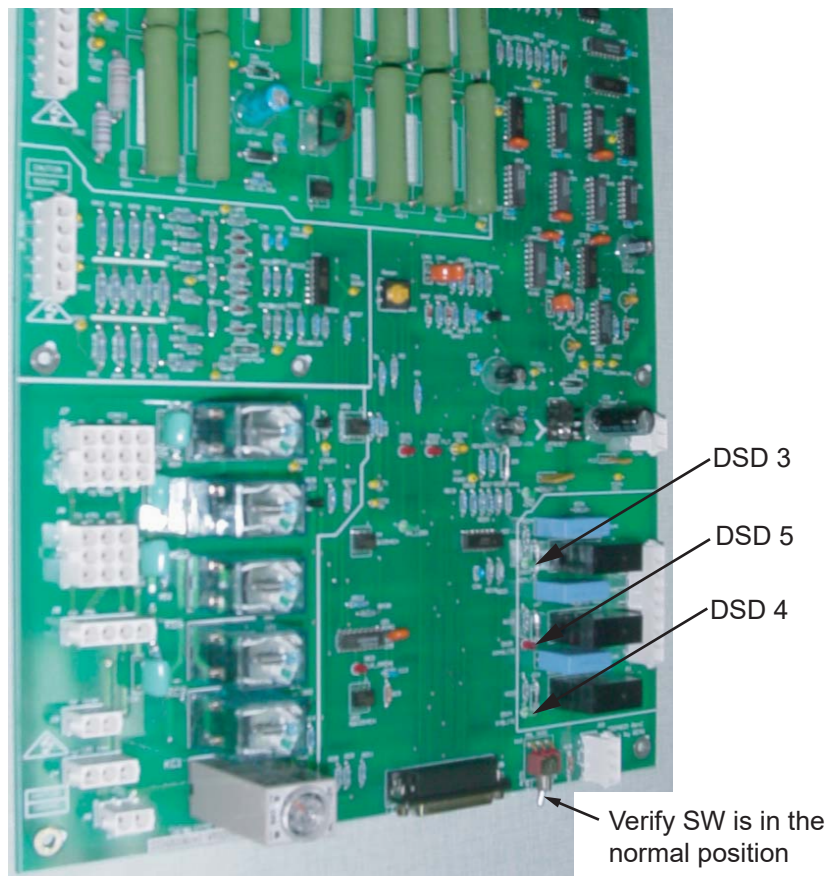

Figure 6-2 NGPDU Control Board
- 2.) When system is already, three lamps are both lighting (refer to Figure 6-2).